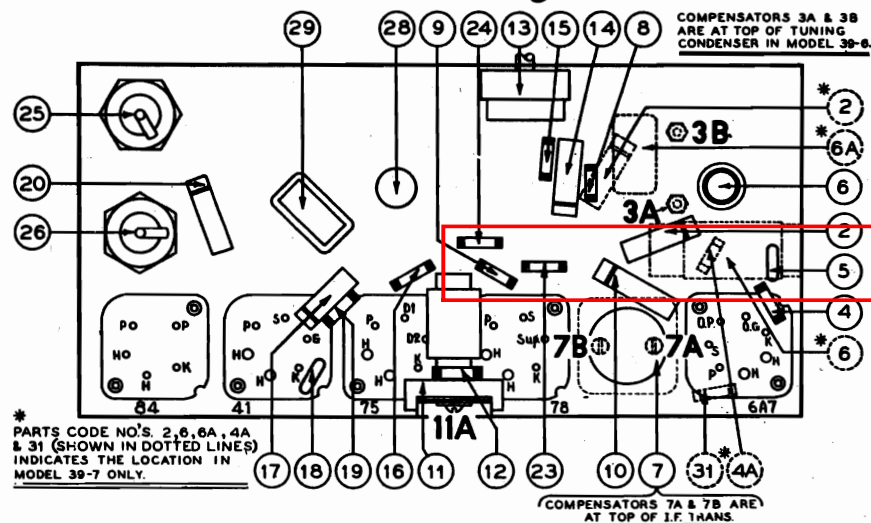

Fig. 2. Part Locations, Underside of Chassis
- (1) Signal Generator; Philco Model 077 Signal Generator which has a fundamental frequency range from 115 to 36,000 K.C. is the correct instrument for this purpose.
- (2) Output Meter, Philco Model 027 Circuit Tester, incorporates a sensitive output meter and is recommended.
- (3) Philco Fiber Handle Screw Driver, Part No. 27-7059, and Fiber Wrench, Part No. 3164.
**OUTPUT METER:** The Philco 027 Output Meter is connected to the plate and screen terminals of the type 41 tube and adjusted for the 0 to 30 V.A.C. scale. After connecting the output meter, adjust the compensators in the order as shown in the tabulation below. Locations of the compensators are shown on Fig. 2. If the output meter pointer goes off scale when adjusting the compensators, reduce the strength of the signal from the generator.